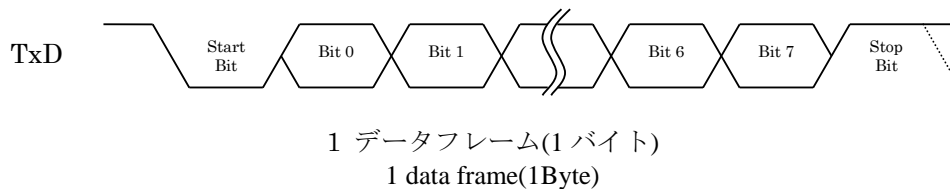

Fig. 6. データフレームのフォーマット (Format of data frame)
- The format of the data frame of receiving data is as shown in Fig.6 below.